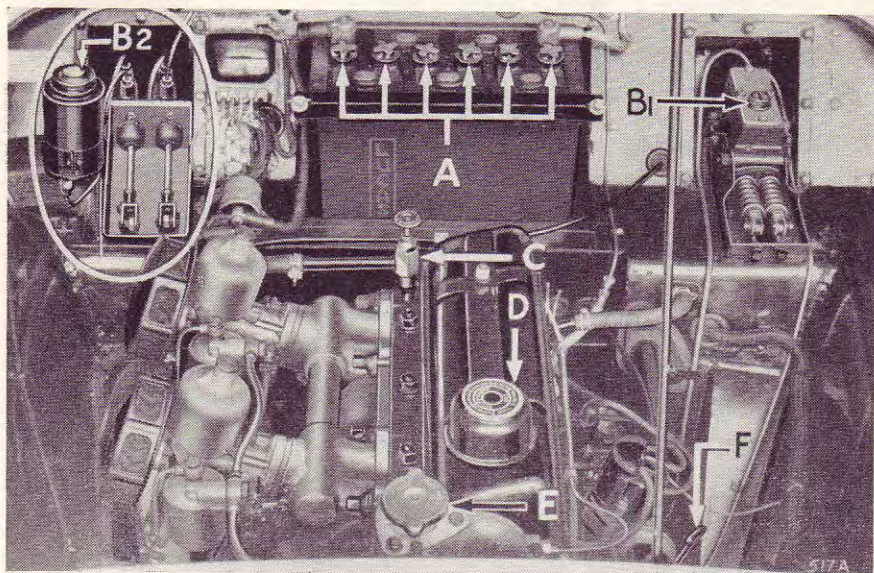

Fig. 3. View under bonnet.
Every 250 miles (400 km.) the oil level should be checked when the engine is cold, and topped up if necessary. Withdraw dipstick ((F) Fig. 3) and wipe clean, then insert and push fully home before withdrawing for reading. Should the level be at the lower mark on the dipstick, 4 pints (2.2 litres) of oil will be required for topping up. The regular addition of oil not only maintains the correct level, but also tends to keep up the quality of the lubricant. Replenishment is via the cap (D) which does NOT require unscrewing but may be lifted straight off.
For the purpose of draining, taps are provided in the bottom tank of the radiator and at the rear of the cylinder block on the right-hand side. As the cooling system is pressurised it will be necessary, when draining, to remove the radiator cap (E), Fig. 3.
It is important that the filler cap on the combined hydraulic fluid reservoir, integral with the master cylinders (see arrow **B1** or **B2** Fig. 3, page 11), should be removed every 6,000 miles (10,000 km.), the fluid level checked and topped up if necessary. The reservoir should be filled to within one inch (2.5 cm.) of the top, and never less than half full (see page 51 or 52 for the correct fluid).